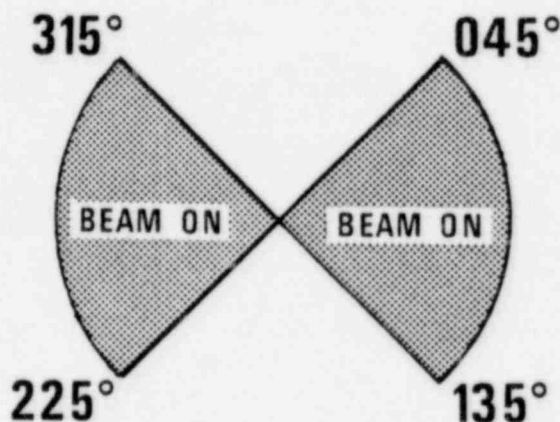

Fig. 4.3b
2. If at start of treatment the gantry is between 45° and 135° or between 225° and 315°, then the beam will be on within those sectors. See Fig. 4.3b.